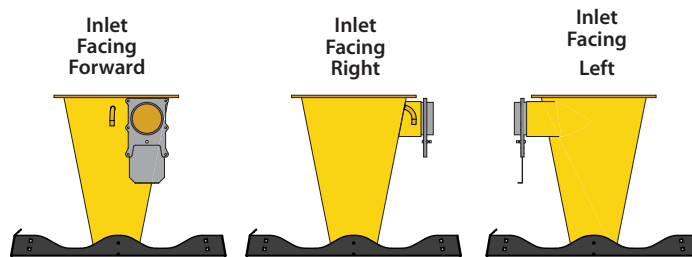

FIG. 7
The Cyclone's inlet (E) can be rotated in 30-degree increments to best connect to your ductwork and/or tools. [FIG. 7].